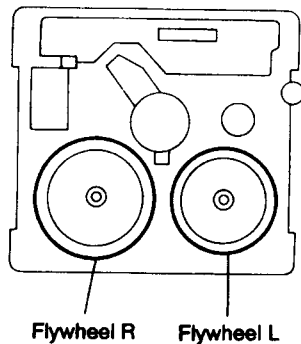

Fig.5-32
■ Removing the Flywheel (See Figs. 5-32,5-33)
3. After turning over the cassette mechanism, remove the slit washers ④ and ⑤ fixing the capstan shafts R and L, and pull out the flywheels R and L respectively from behind the cassette mechanism.